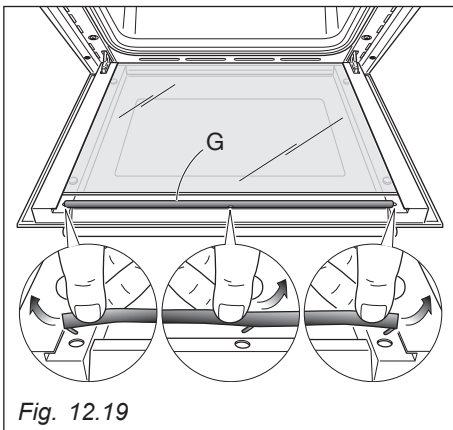

Fig. 12.19
- Remove the seal "G" by unhooking the no. 3 fixing hooks (fig. 12.19).